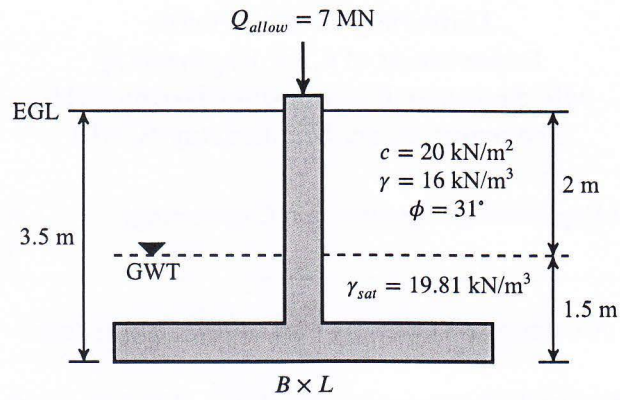

Figure 2: for QUESTION 2(c)
- (c) An individual shallow foundation as shown in Fig. 2 is required to carry an allowable load of 7 MN. The site restriction imposes that the length of the footing, L , needs to be 4 m. If the factor of safety is 3, what will be the size of the foundation? Use Terzaghi's bearing capacity equation and factors. (8)
3. (a) What do you understand by an eccentrically loaded foundation? (3)
- (b) What information are required in a soil exploration report? (5)